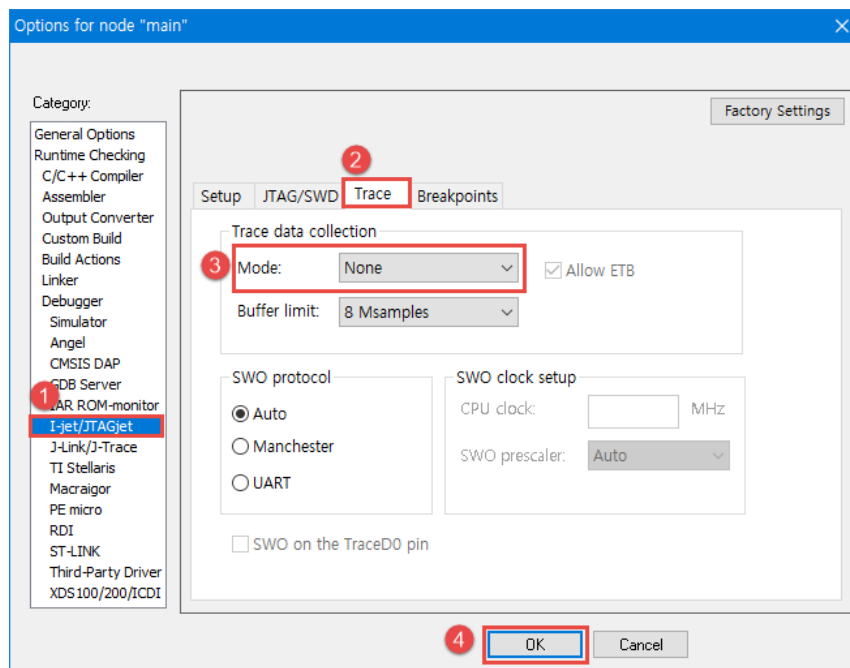

**Figure 31: I-Jet JTAG/SWD Setting**
- k. In the Category list, select **JTAG/SWD** (1). See Figure 31.